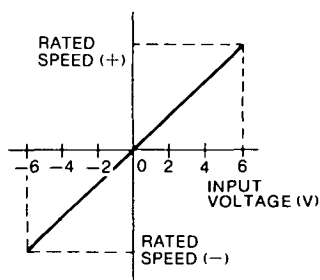
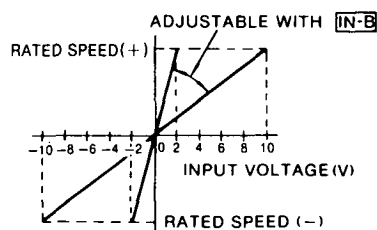

Fig. 4.7 Speed-Input Voltage Characteristics
Fig. 4.8 Speed-Input Voltage Characteristics when Auxiliary Input Terminals 1CN-⑭ and ⑮ are used.
Fig. 4.7 shows motor speed and input voltage curve when speed reference input terminals 1CN-⑫ and ⑬ are used. With auxiliary input terminals, 1CN-⑭ and ⑮, motor speed can be set to the rating by adjusting user constant Cn-03 $\boxed{\text{IN-B}}$ as long as input voltage is within $\pm 2\text{V}$ to $\pm 10\text{V}$. See Fig. 4.8.